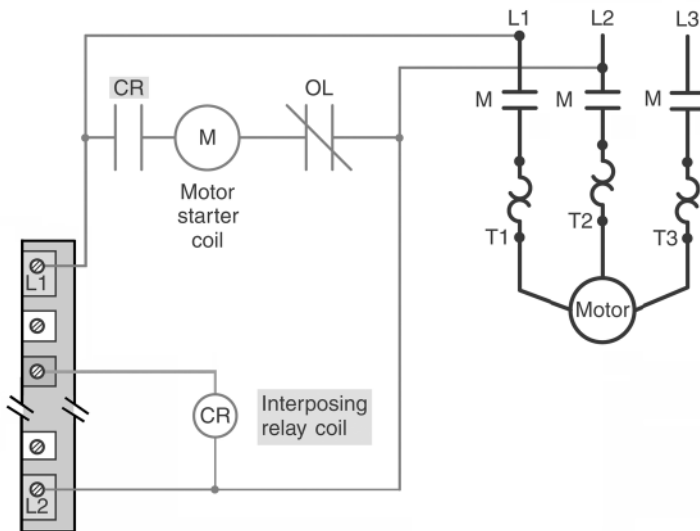

Figure 2-6 Schematic diagram for question 27.
27. The schematic diagram of Figure 2-6 is an example of 27. **d**